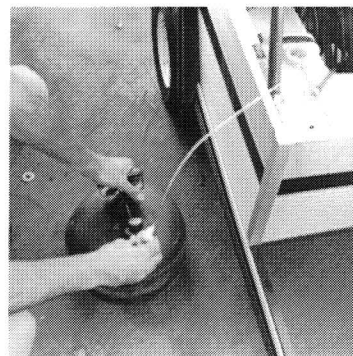

Figure 12
2. Using a siphon with a suction device (See Figure 12), drain all of the gasoline out of the tank into an approved gasoline container.